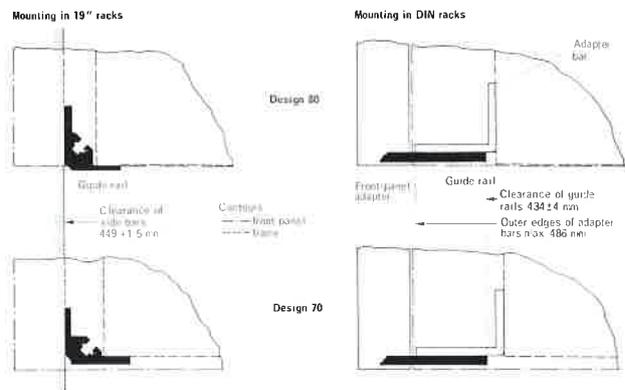
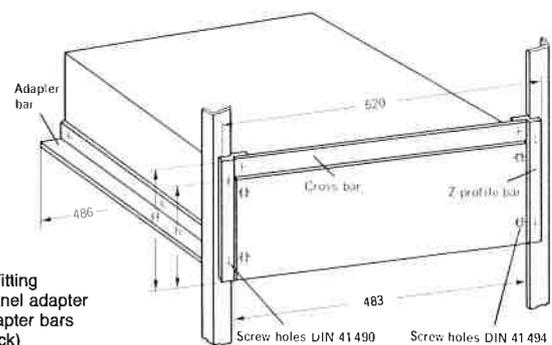

Fig. 1 Guide rails, adapter bars and front-panel adapter fitted for left side of rackmount
Fig. 3 Fitting front-panel adapter and adapter bars (DIN rack)
**Guide rails** are supplied in pairs for KCJ 19" racks (R&S) or single for other 19" racks (length 740 mm, no drilled holes); they are suitable for units of design 70 and design 80 (Fig. 1 left).
**Adapter bars** (2 ea, angle section) extend the 19" size to DIN width (Fig. 1 right and Fig. 3).
**Front-panel adapters** (three parts) reduce the width and height of the DIN frame to 19" front-panel size (Fig. 3).
**Guide rails** for rack mounting (Fig. 1 right) can be made of commercial angle-profile bars.